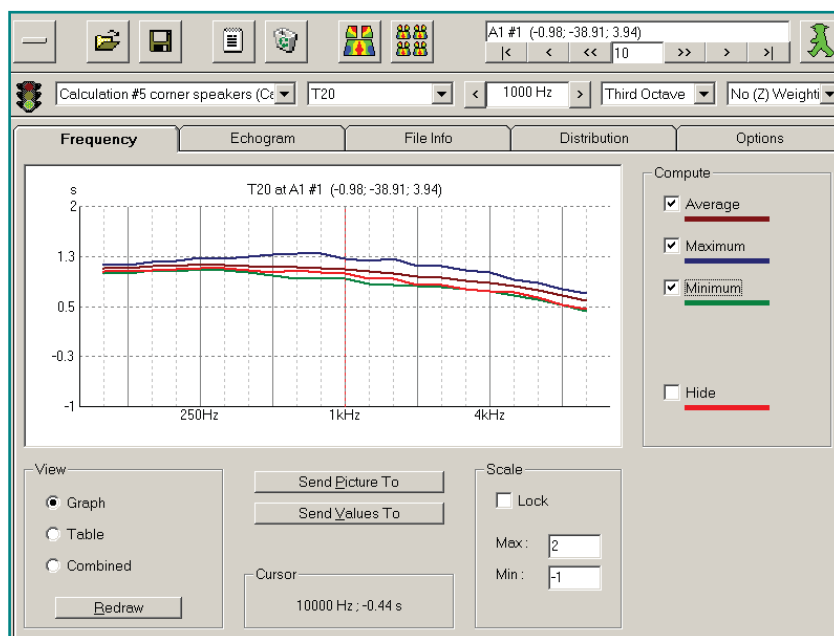

Figure 5: This RT panel shows information in a different format, which is accessible via tabs.
**Figure 4** and **Figure 5** show different ways of presenting RT variation with frequency in two different modeling programs. The panel shown in **Figure 4** displays statistically calculated RT using the Sabine and the Eyring equations, with RT determined by ray tracing using the T-15 and T-30 methods, average surface absorption vs frequency, and mean free path as determined by ray tracing. The panel in **Figure 5** shows the coordinates of the location for which the RT was determined, as well as overall maximum, average, and minimum RT values. Other data is available via tabs. Statistically calculated RT values are shown in this program on a separate page. These figures are only included to illustrate some of the differences among acoustical